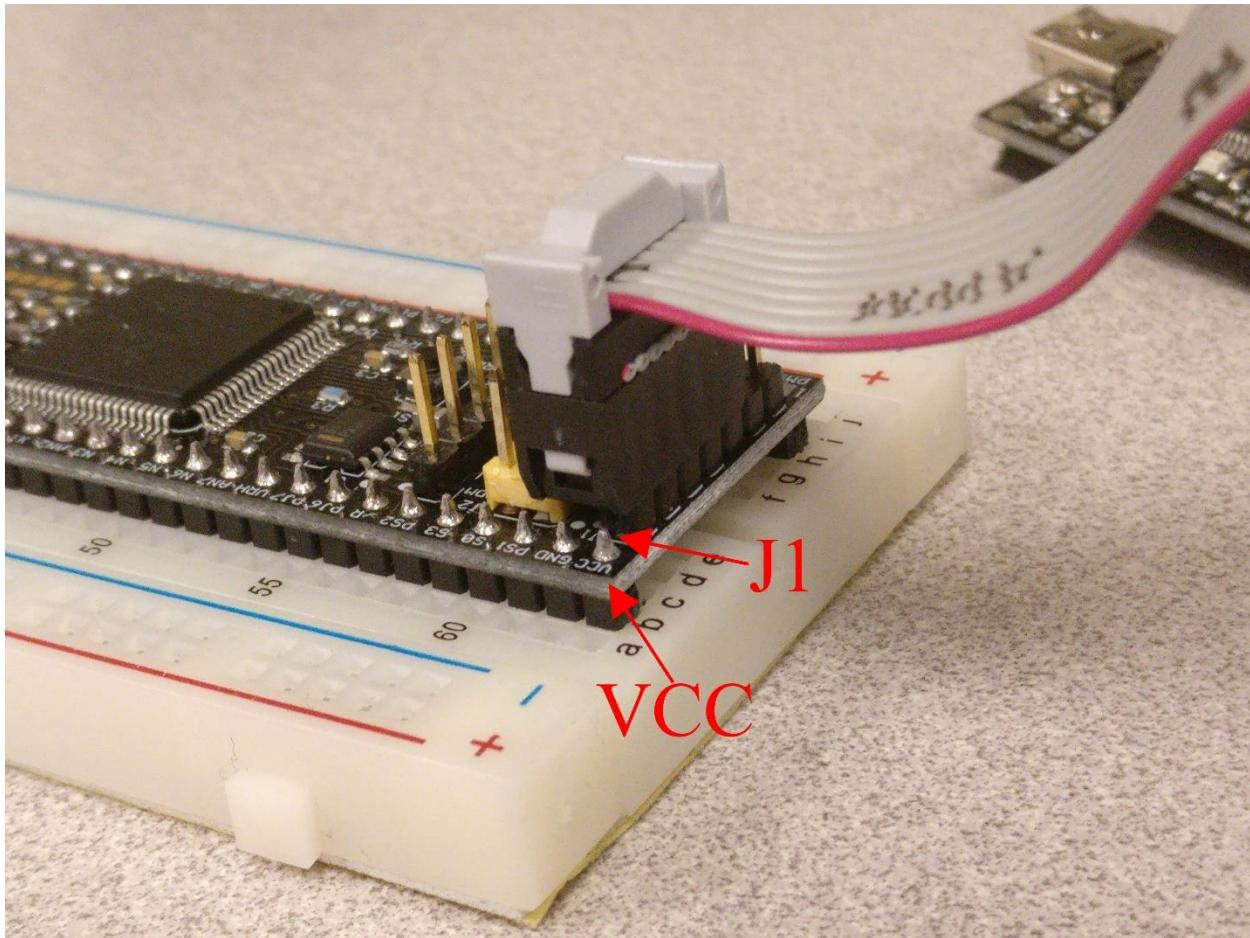

Figure 8-5 – Ribbon cable connected to Thunderbird12
- b. The other end of the ribbon cable should be plugged into J1 on the Thunderbird such that the red line should be closer to the J1 and VCC silkscreen text, and the unused 4 ports should be closer to J2. Refer to Figure 8-5 for an example of what the cable should look like plugged into the Thunderbird.